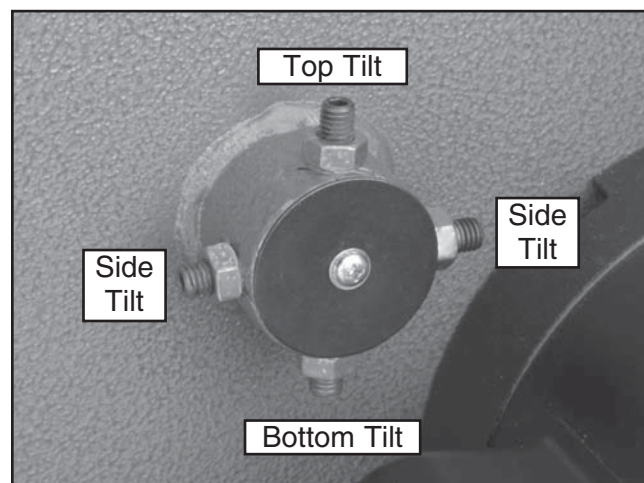

Figure 47. Lower wheel adjustment control.
7. If the wheels will go parallel but not coplanar, then move the lower wheel at the adjustment hub (**Figure 47**) as necessary.